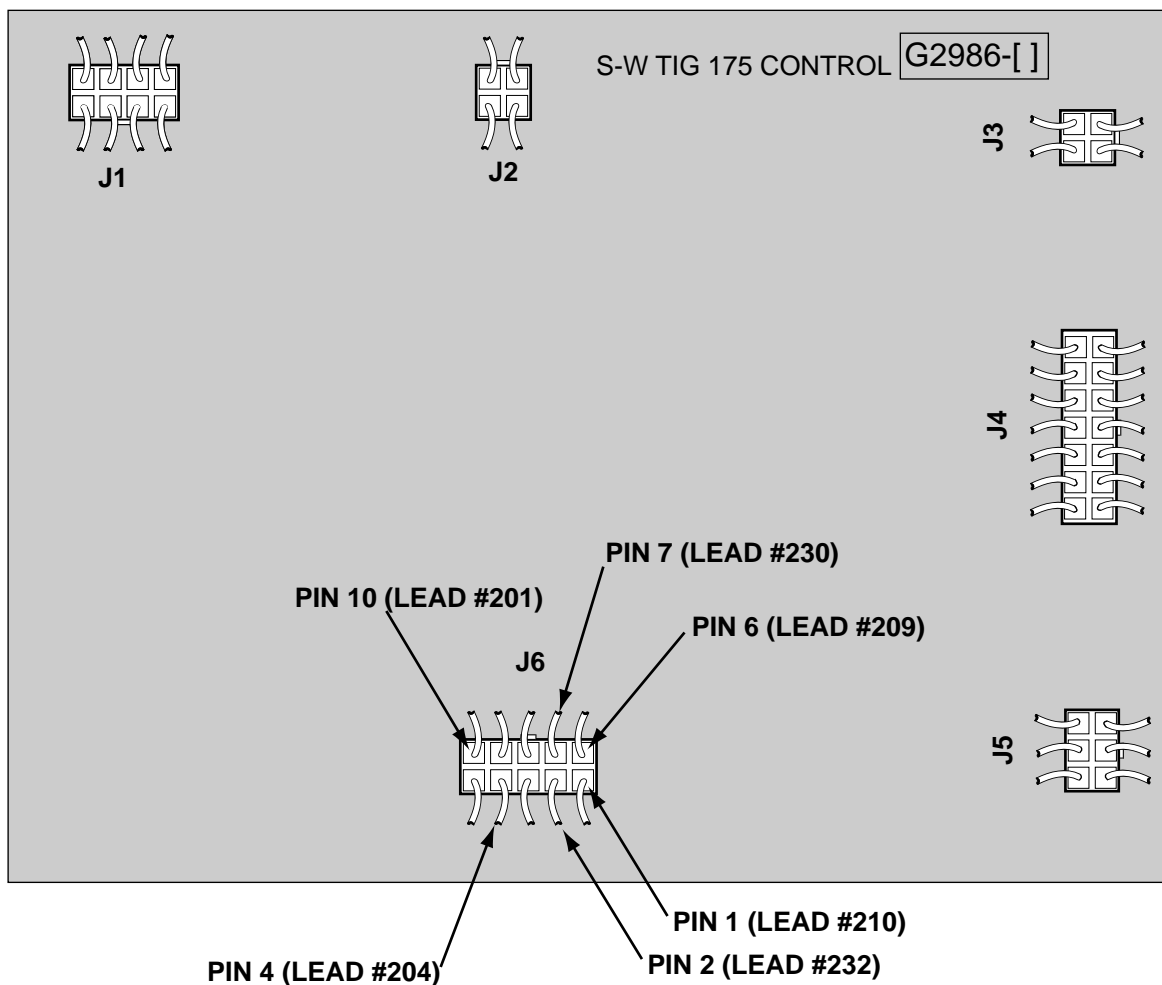

FIGURE F.2 PLUG J6 ON CONTROL BOARD
3. Locate plug J6 on the control board. See Figure F.2.